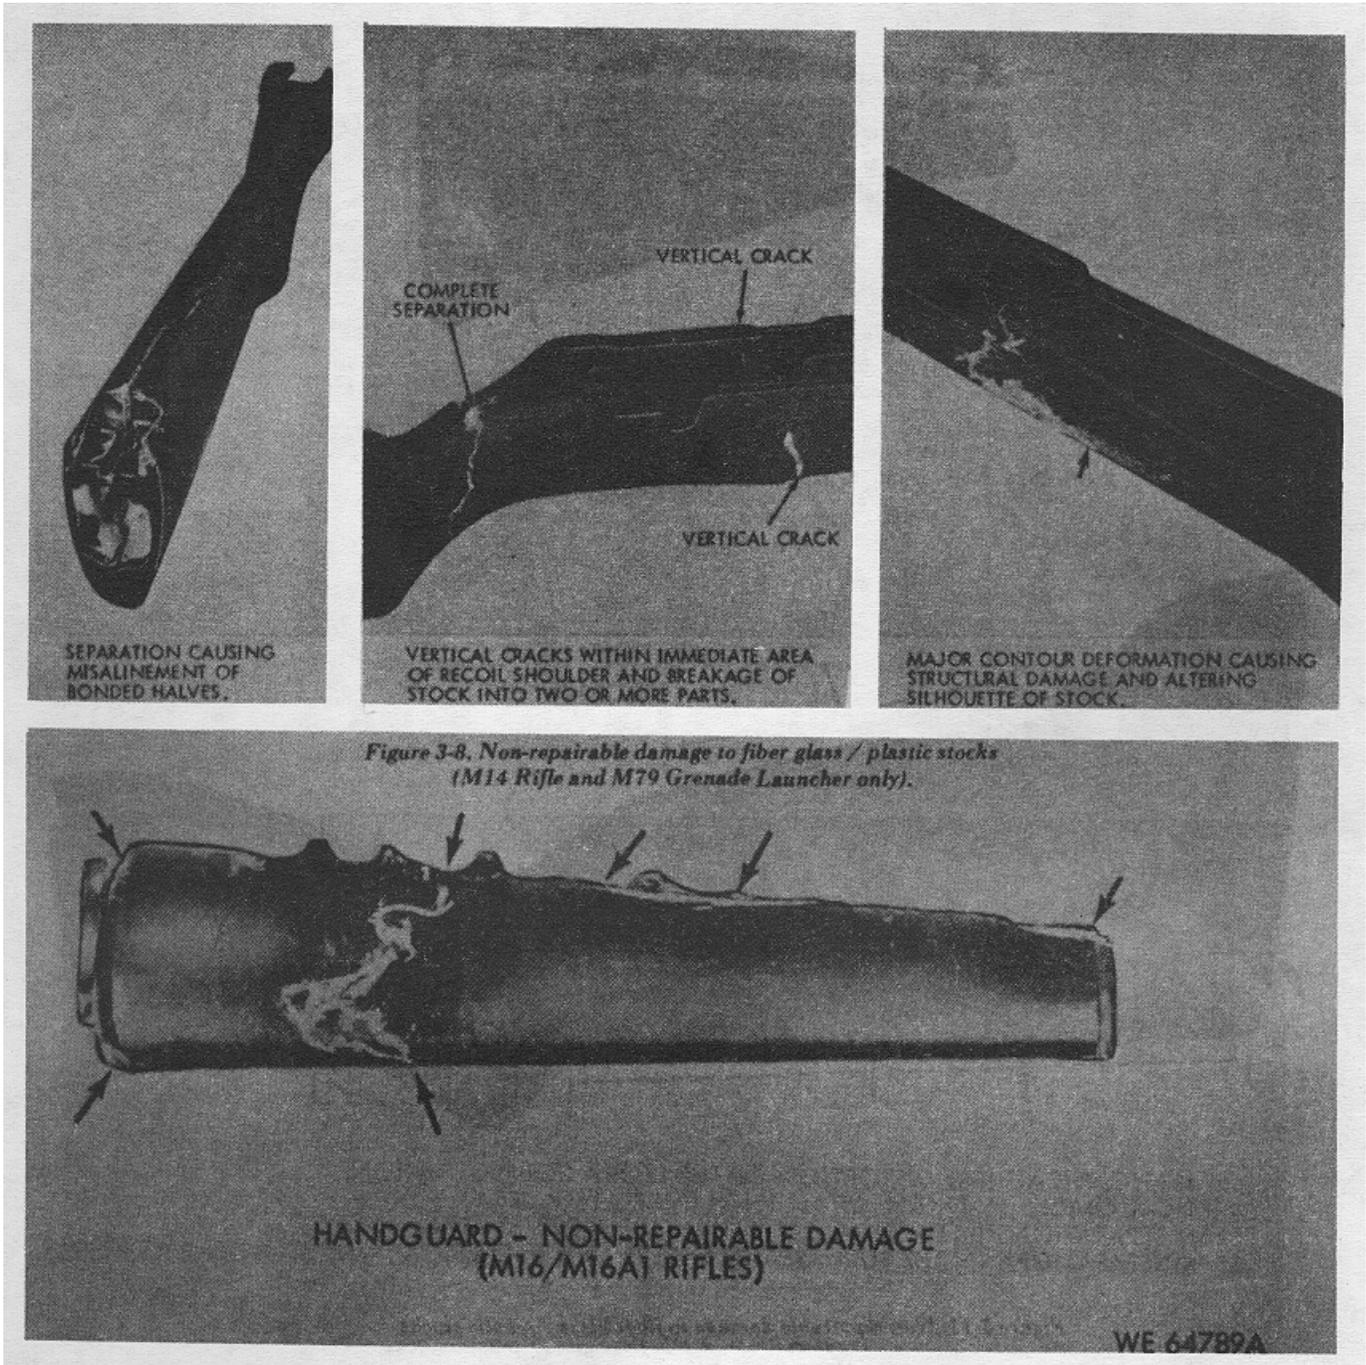
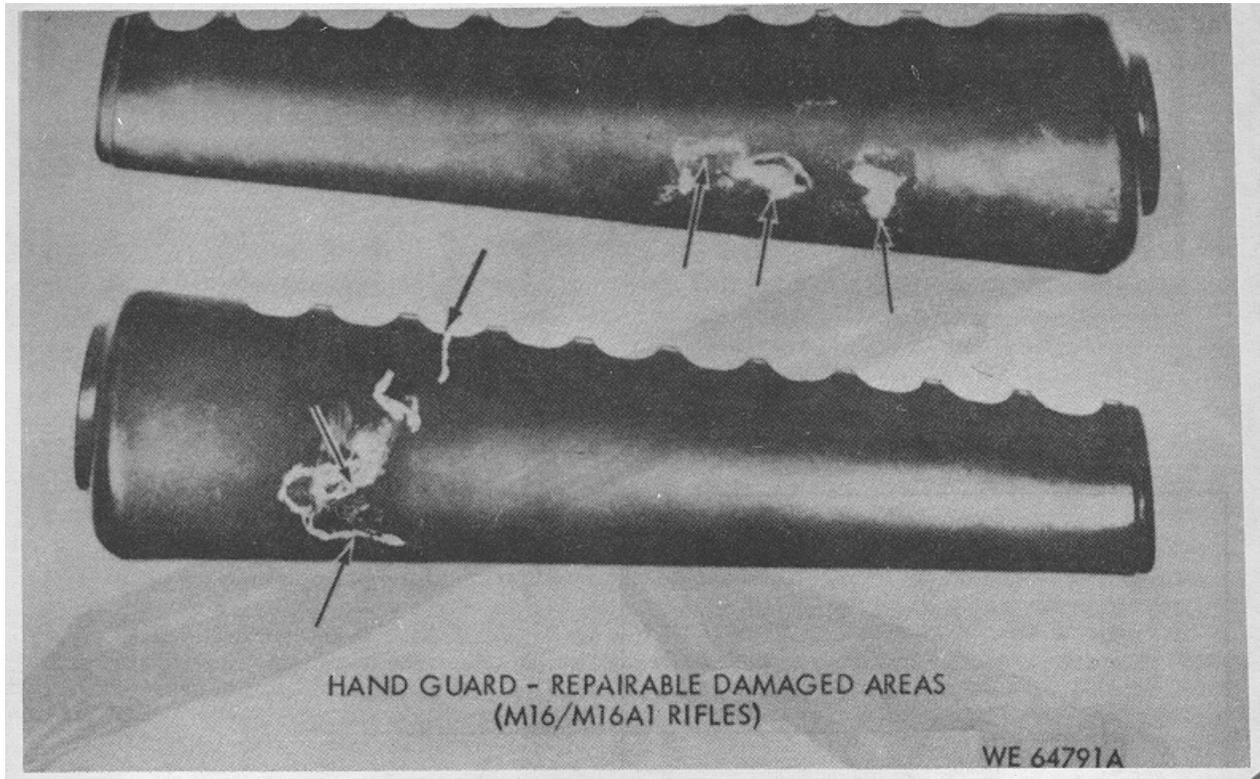

Figure 3-9. Non-repairable damage t fiber glass /plastic hand guard.
Figure 3-13. Repairable damage to fiber glass/plastic hand guards.
b. Hand guards (M16 and M16A1 only) containing punctures, dents, gouges and crushed areas not exceeding two inches in length and 1/2 inch in diameter, at the widest point (fig 3-13), can be repaired using epoxy adhesive and the same procedures as for the stock assembly. Hand guards badly damaged as indicated in figure 3-9 will be replaced.